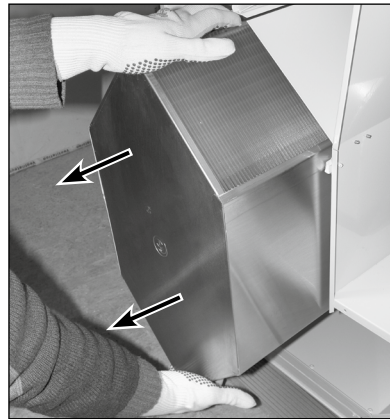

Fig. 8
4. Remove the heat exchanger from the unit to reduce the weight (see Fig. 8).